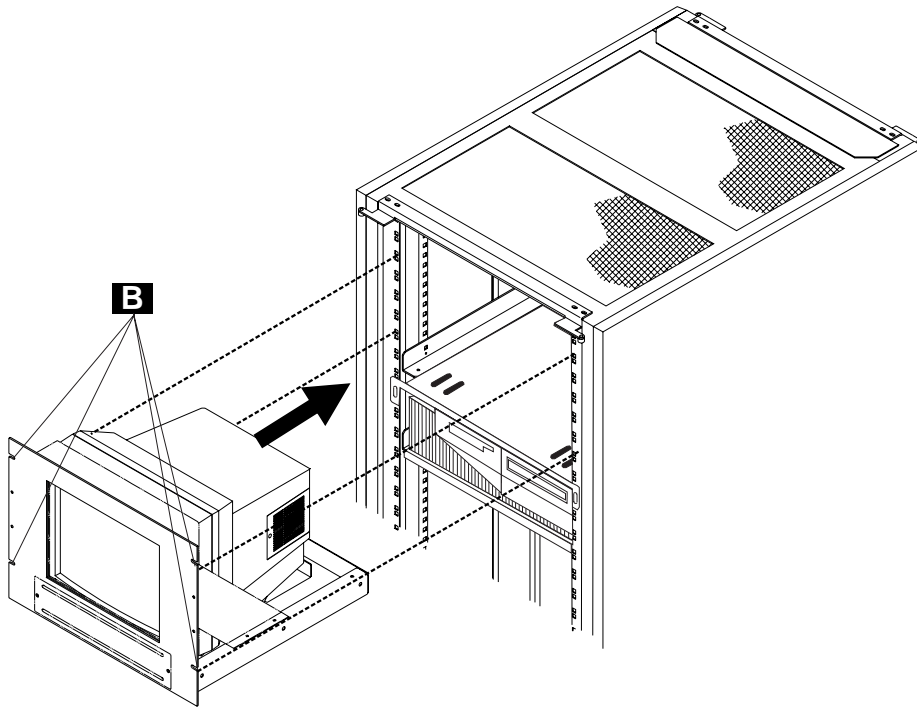

Figure 5-11. Display Assembly Installation in 37 U Rack
8. Slide the display into the rack and secure it with screws **B** (see Figure 5-11 on page 5-12).